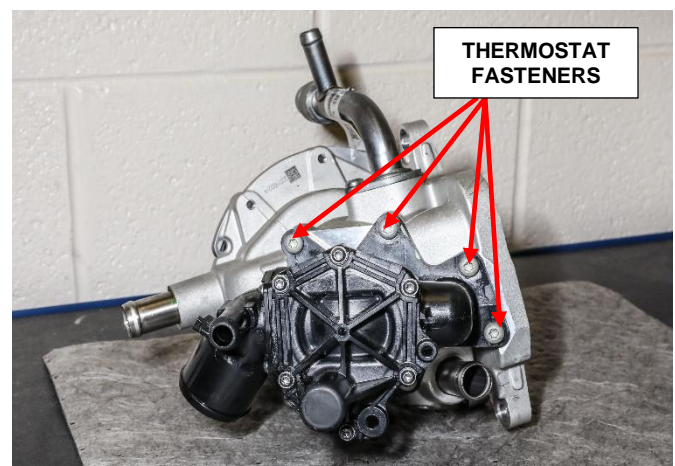

Figure 3 – Water Pump Assembly
32. Remove the thermostat fasteners and separate the thermostat from the water pump housing and **DISCARD** (Figure 3).